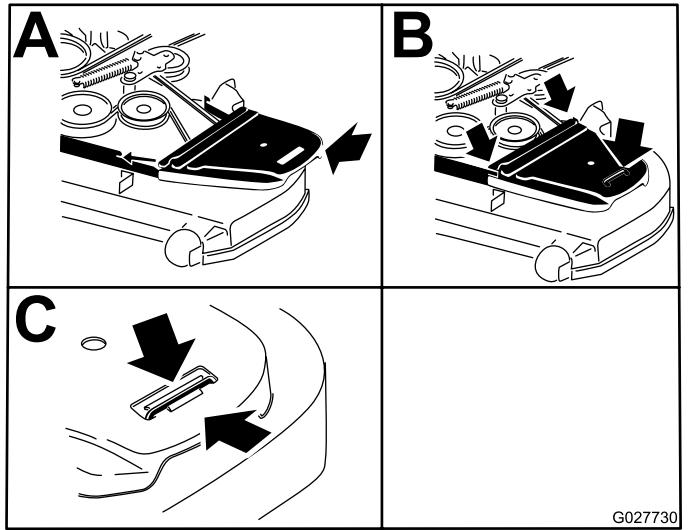

Figure 65
- Install the belt covers (Figure 65).